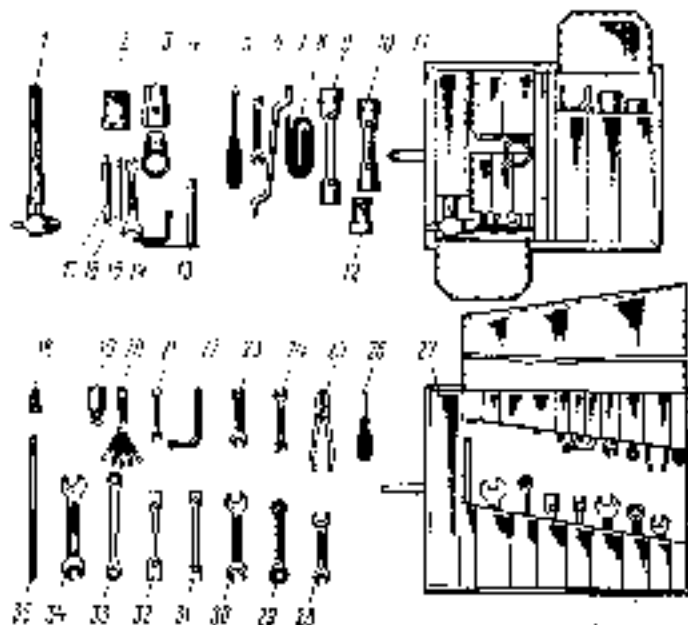
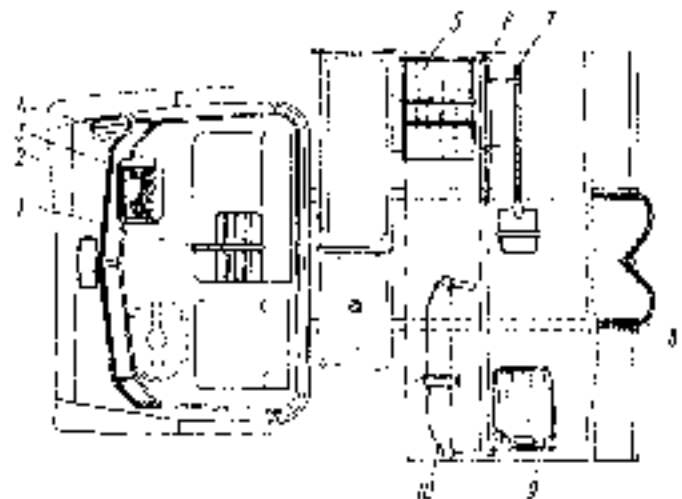

Fig. 155. Tools of Ural 4320-02 Truck
Fig. 157. Location of Tools and Accessories in Ural-4320-02 Truck
When running the truck the layout of the tools and accessories, namely towing rope (item 6, Fig. 157) may be determined by the driver himself.
In tool box 5 (Fig. 157) under platform in large tool bag 11 (Fig. 155)
In tool box under platform in tool bag 27 (Fig. 155)
In luggage compartment (Fig. 157)
On cab front side panel (Fig. 157)
On platform (Fig. 157) (placed in jacket and fixed on front board)